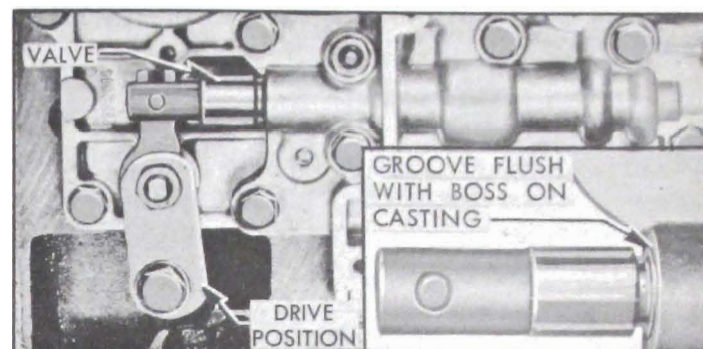

Figure 5-102—Position of Control Valve in Direct Drive Range
8. Move shift lever to Direct Drive position and note position of control valve. The groove in the first land of the valve should be flush with the boss on the valve body. See figure 5-102.